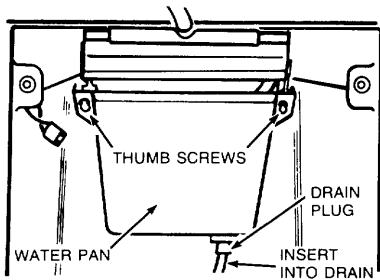

FIGURE 7
4. Remove the water pan by unscrewing the two thumb screws (Figure 7).